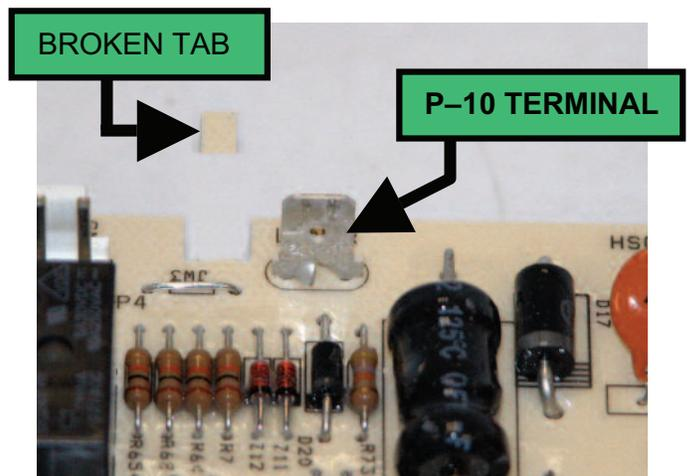

Fig. 15
3. Attach the wire from the air switch to the P-10 location shown in **Fig. 15**.